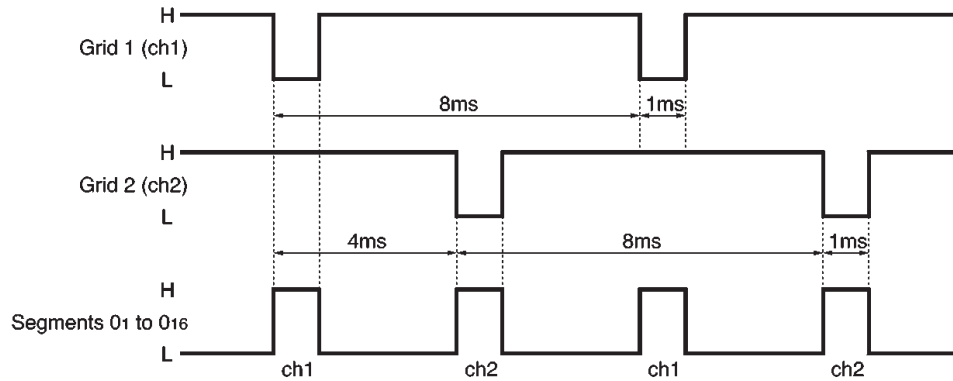

Fig. 5
(5) Grid and segment output timing chart. The grid and segment output timing for an oscillator frequency of 2kHz is shown in Fig. 5.
(6) Attack and release times